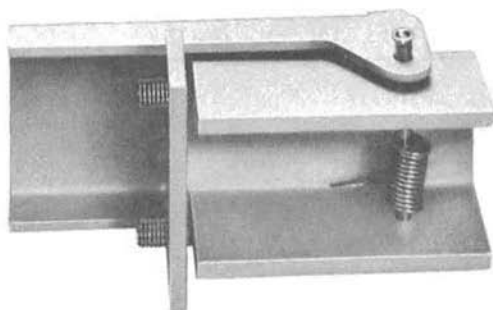
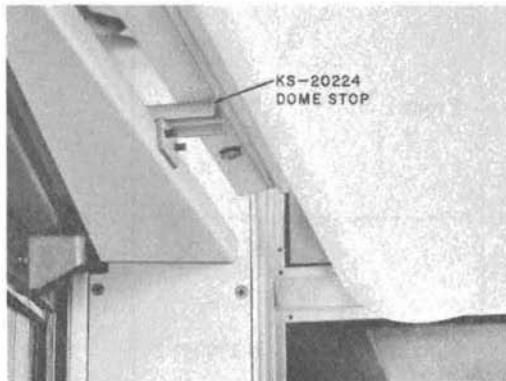

Fig. 3—KS-20224 Dome Stop
Fig. 4—KS-20224 Dome Stop Installed
- 2.09 The KS-20224 dome stop (Fig. 3), a spring loaded device, is designed to mount along the door track (Fig. 4) to prevent the dome from falling when the fasteners are released.